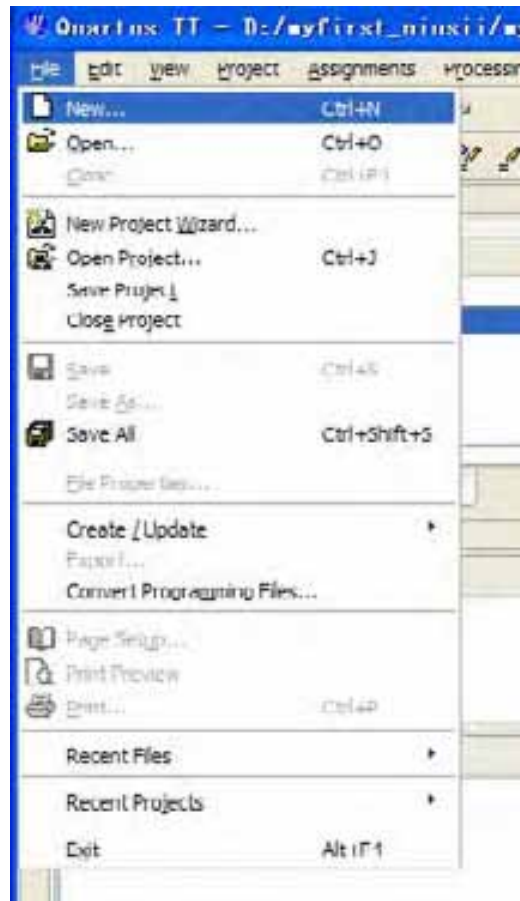
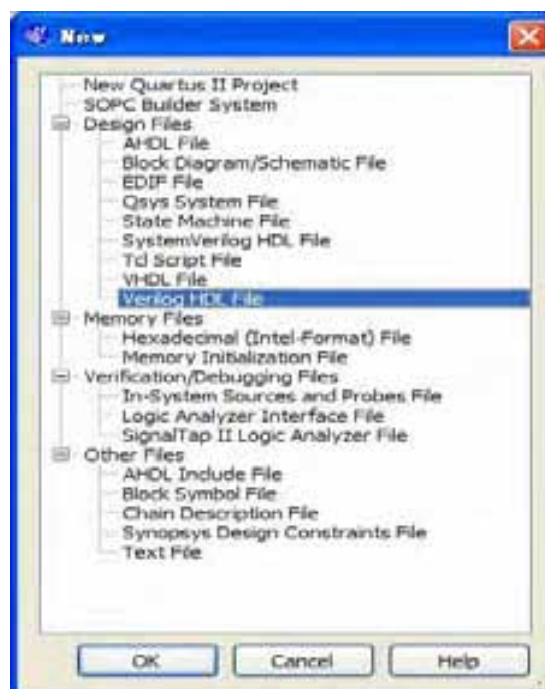

Figure 7-40 New Verilog file
Figure 7-41 New Verilog File
25. Create a new Verilog HDL file, by selecting **File > New, Verilog HDL File** and click **OK**, as shown in **Figure 7-40** and **Figure 7-41**.